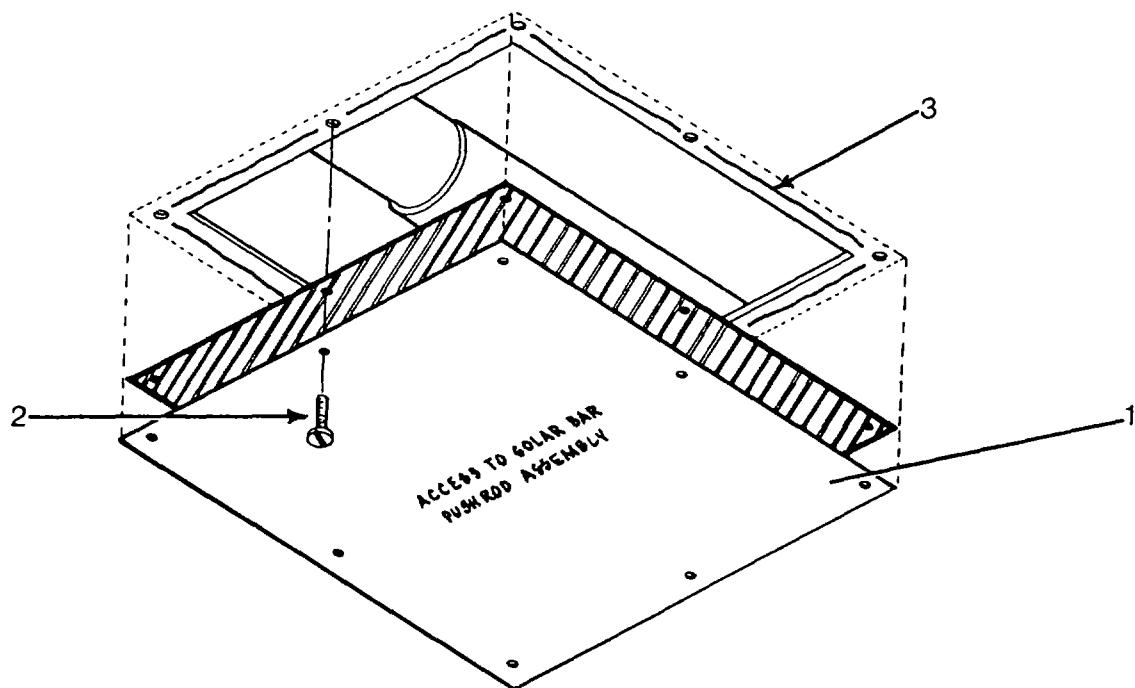

Figure 4-9. Solar Bar Push Rod Access Plate
- c. Repair by replacing access plate (1) to solar bar push rod. (See figure 4-9.)
- (1) Remove mounting screws (2) from access plate and remove access plate (1) from AC ducting assembly (3).
- (2) Align replacement access plate (1) over holes in AC ducting assembly (3) and secure in place with mounting screws (2).